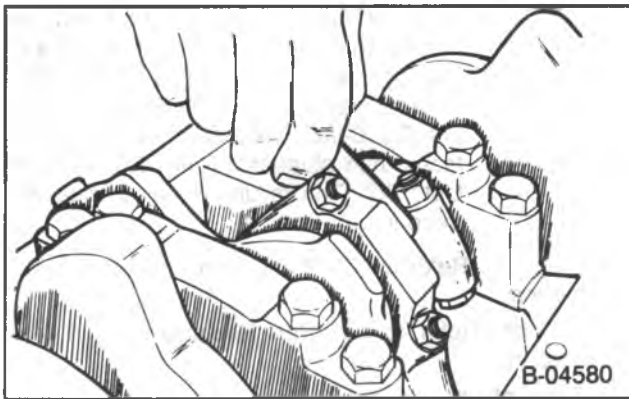

Figure 30 — Measuring Connecting Rod Side Clearance
- Connecting rod side clearance. Use a feeler gage between the connecting rods (figure 30). The correct clearance is 0.006-0.014-inch.